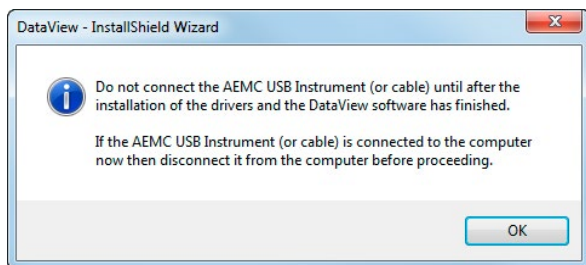

Figure 6-3
13. If the instrument selected for installation requires the use of a USB port, a warning box will appear, similar to Figure 6-3. Click **OK**.